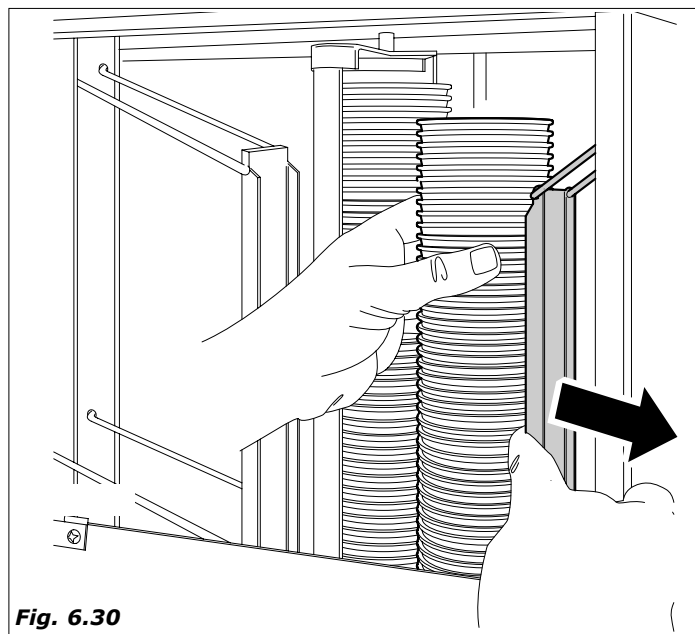

Fig. 6.30
- insert another cup column at the right of the first pressing the pusher element (Fig. 6.30)